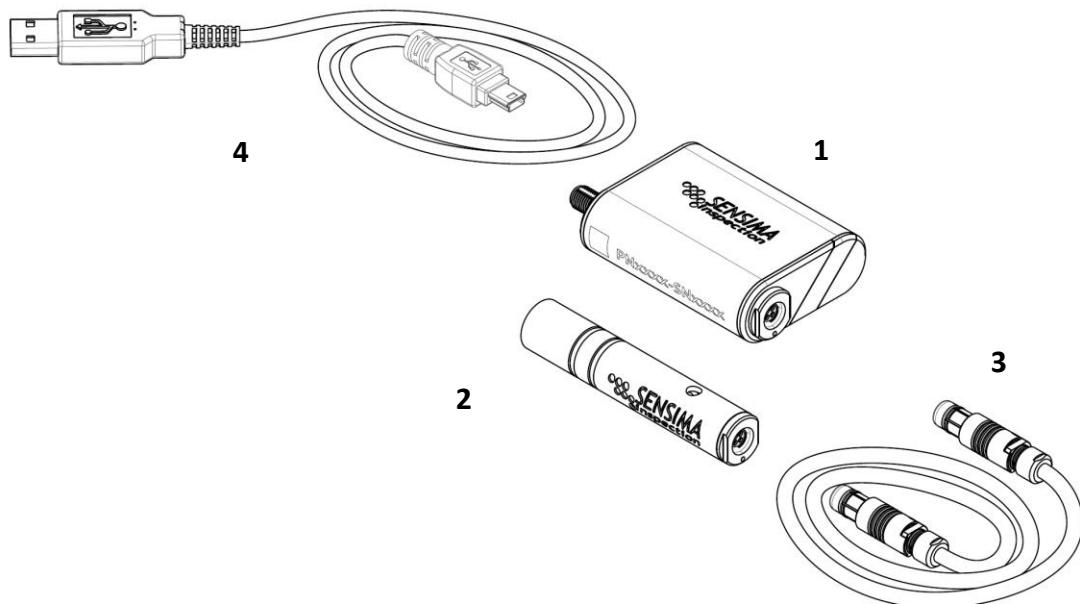
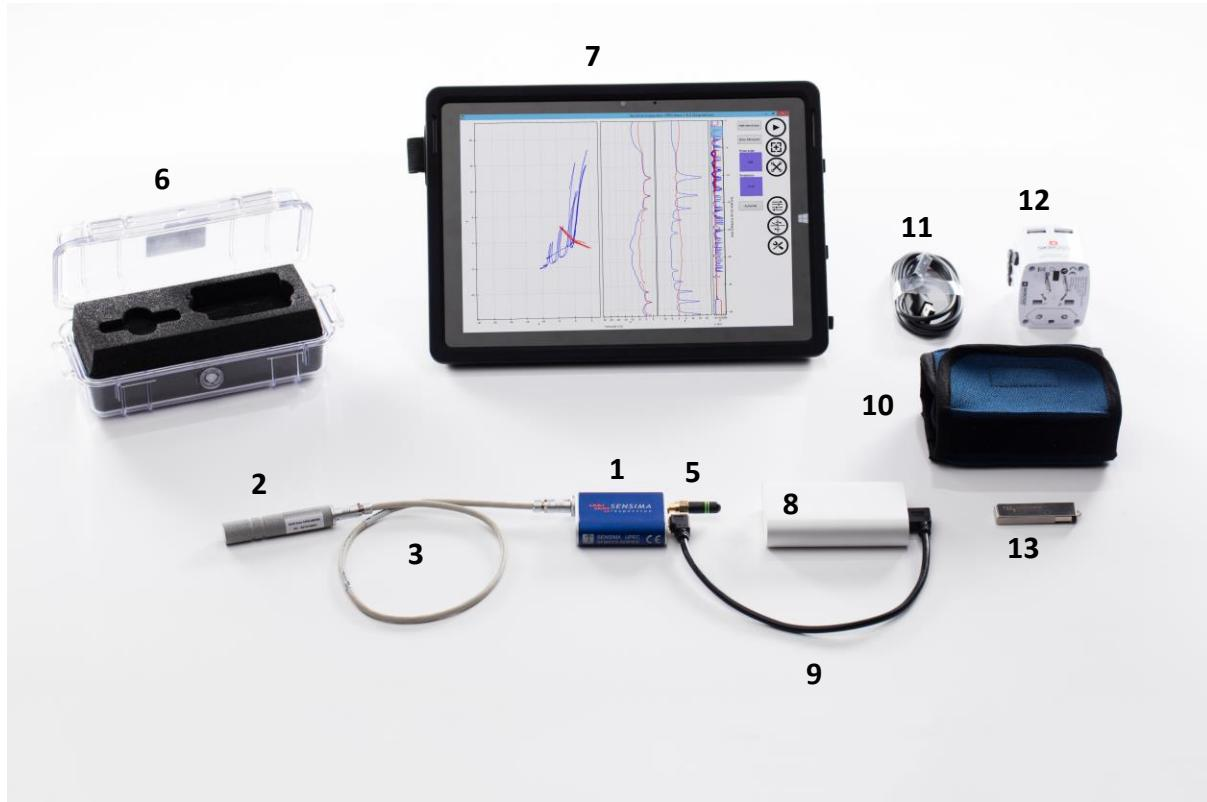

Figure 1: Partial content of the UPEC inspection kit. The waterproof carrying case, the USB key and the tablet are not shown
Figure 2: Content of the UPEC WR inspection kit.
- (2) EC probe
- (3) Probe cable with Fischer 4-pin connectors to connect the probe to the UPEC tester
- (4) USB cable to connect the UPEC tester to the tablet or a PC (not shown in Figure 2, see Figure 1)
- (13) USB key with drivers, software and electronic documentation allowing an optional installation on another PC